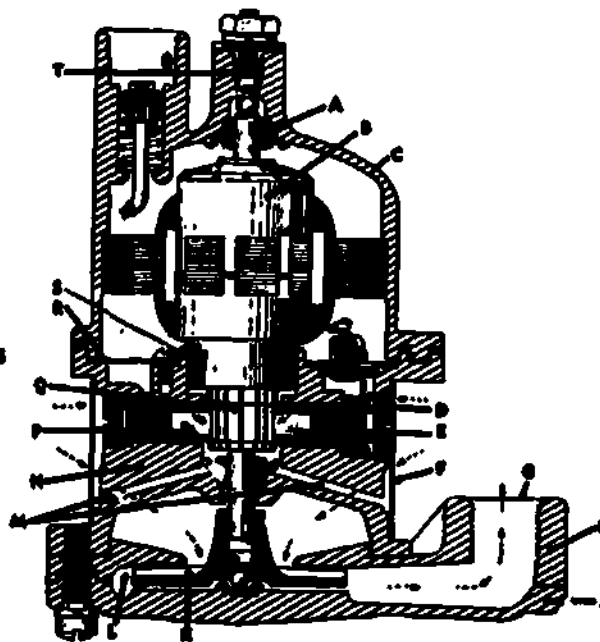

Fig 1-15. Cutway view of the electric-motor-driven fuel pump.
In figure 1-15, notice the impeller (K) on the bottom of the armature shaft (B). It is attached to, and rotated by, the armature shaft. Item F in figure 1-15 is a screen through which the fuel enters the pump. When the pump is operating, the blades on the spinning impeller hurl the fuel toward the fuel discharge port. This port is connected to the main fuel line that delivers the fuel to the carburetor. Although the pump is in constant operation whenever the ignition switch is closed, it does not flood the carburetor with high pressure fuel. Because of the space provided around the impeller, it cannot build up more than 5 or 6 pounds of pressure on the fuel. When the pressure gets that high, the fuel in the circular passage around the impeller merely goes around with the impeller. No fuel will leave through the discharge port until the pressure in the discharge line drops to less than 5 or 6 pounds per square inch (psi).